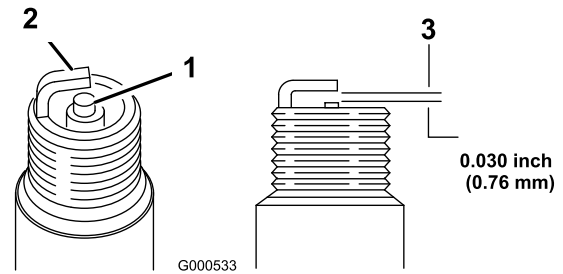

Figure 29
5. Set the gap on the plug to 0.030 inch (0.76 mm) (Figure 29).